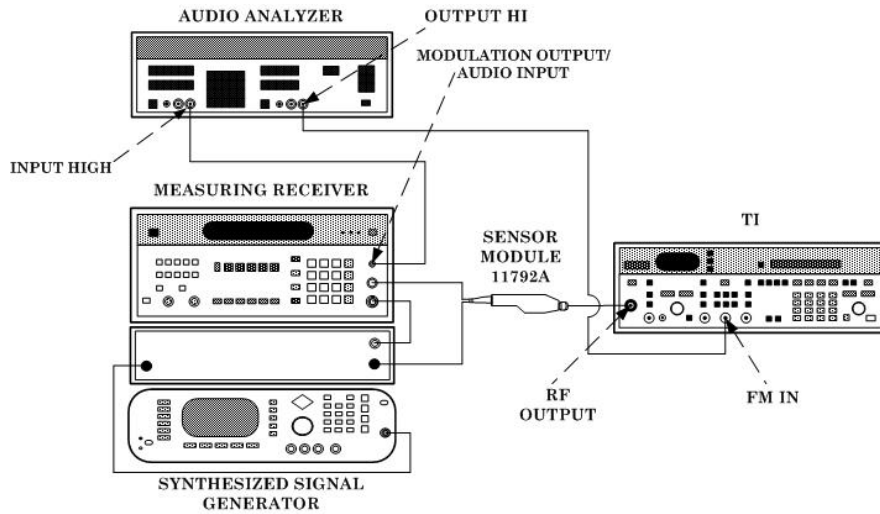

Figure 14. Frequency modulation hookup.
- (1) Connect equipment as shown in figure 14 below.